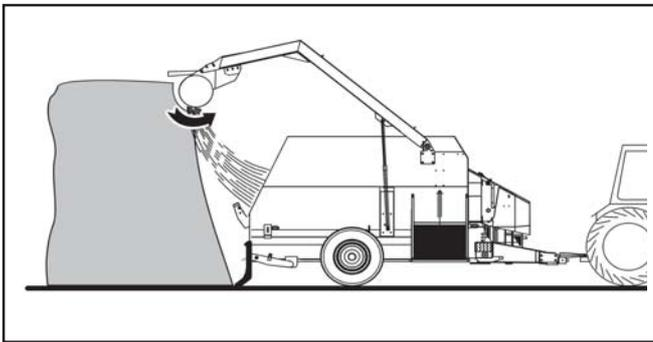
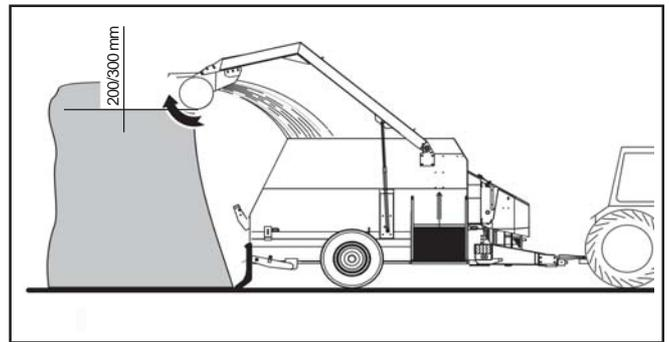

fig.1
fig.2
- 5) Slowly turn the rotary hoe anticlockwise (fig. 1) with the cardan shaft at approx. 300/400 rpm. Cut silage and control the down speed with the knob provided: continue for approx. 200/300 mm. Then, stop rotation and reverse rotational direction (fig. 2).